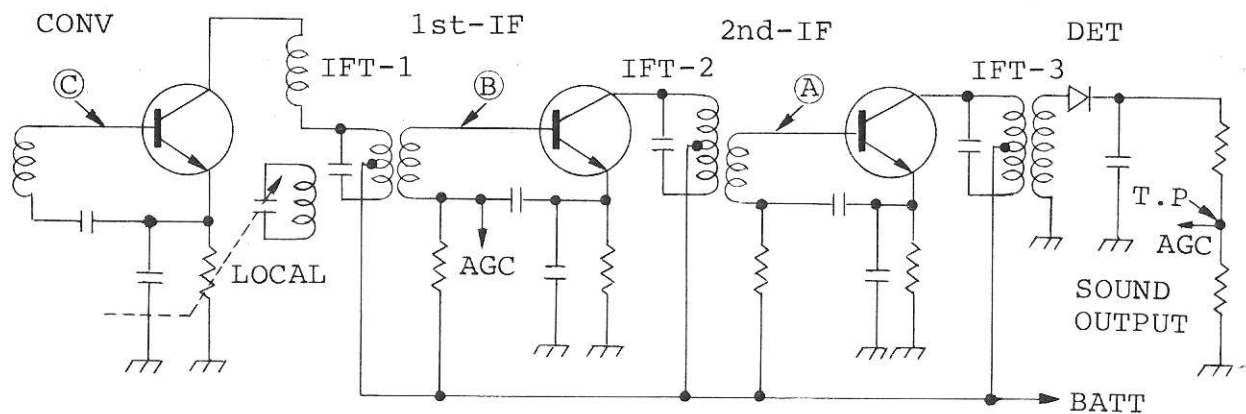

Fig. 4-2 Example: IF circuit alignment.
2. Connect the sweep output to test point (A) (at output of IF T-2) in Fig. 4-2; use a 0.01 μ F capacitor in the "hot" lead.